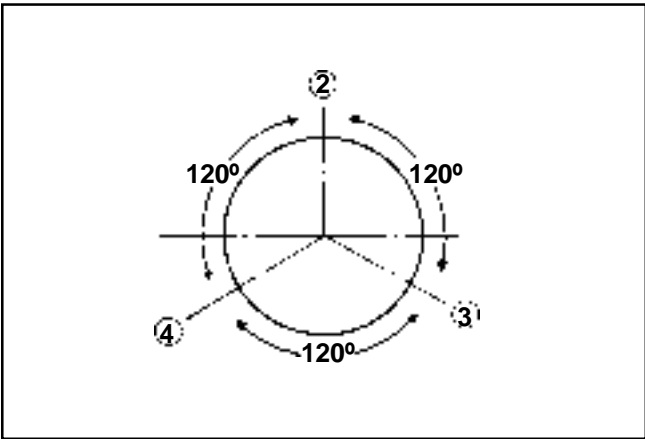

Figure 10-18. Ring Gap Positioning.
4. Stagger/position the two compression rings, so the end gaps are spaced 120° apart, as well as from the expander gap. See Figure 10-18.